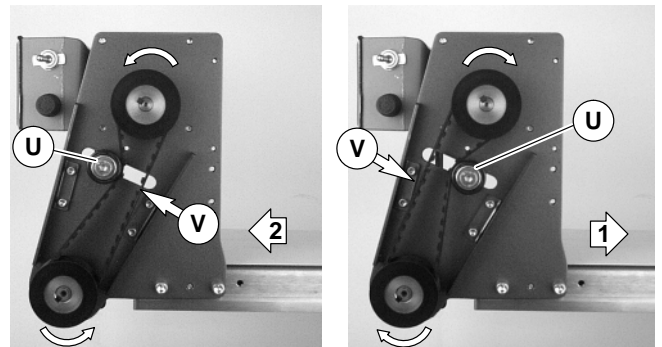

Figure 7
7. Depending on direction of conveyor belt travel (1 or 2 of Figure 7), position timing belt tensioner (U) as shown. Tension timing belt to obtain 1/8" (3 mm) deflection at timing belt mid-point (V). Tighten tensioner screw to 106 in-lb (12 Nm).